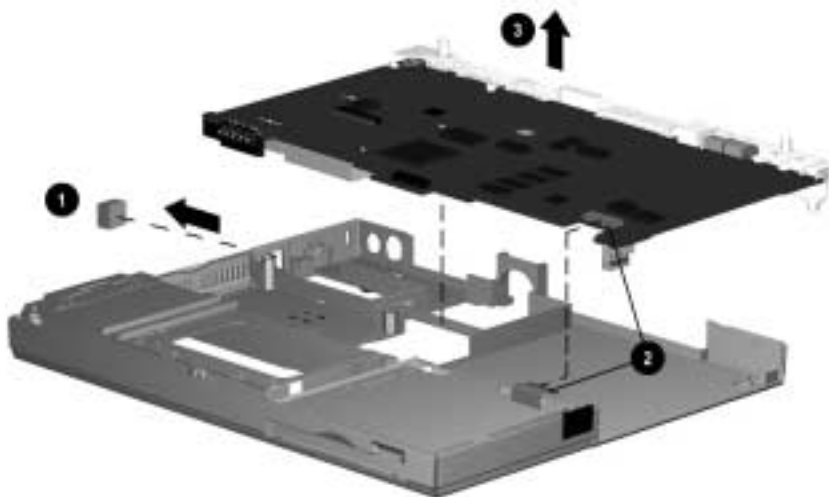

Figure 5-32. *Removing the System Board*
5. If installed, remove the RJ11 cover from the left side of the computer ❶ (Figure 5-32).
6. Disconnect the diskette drive LIF (low insertion force) cable from the system board ❷.
7. Remove the system board from the base assembly ❸.